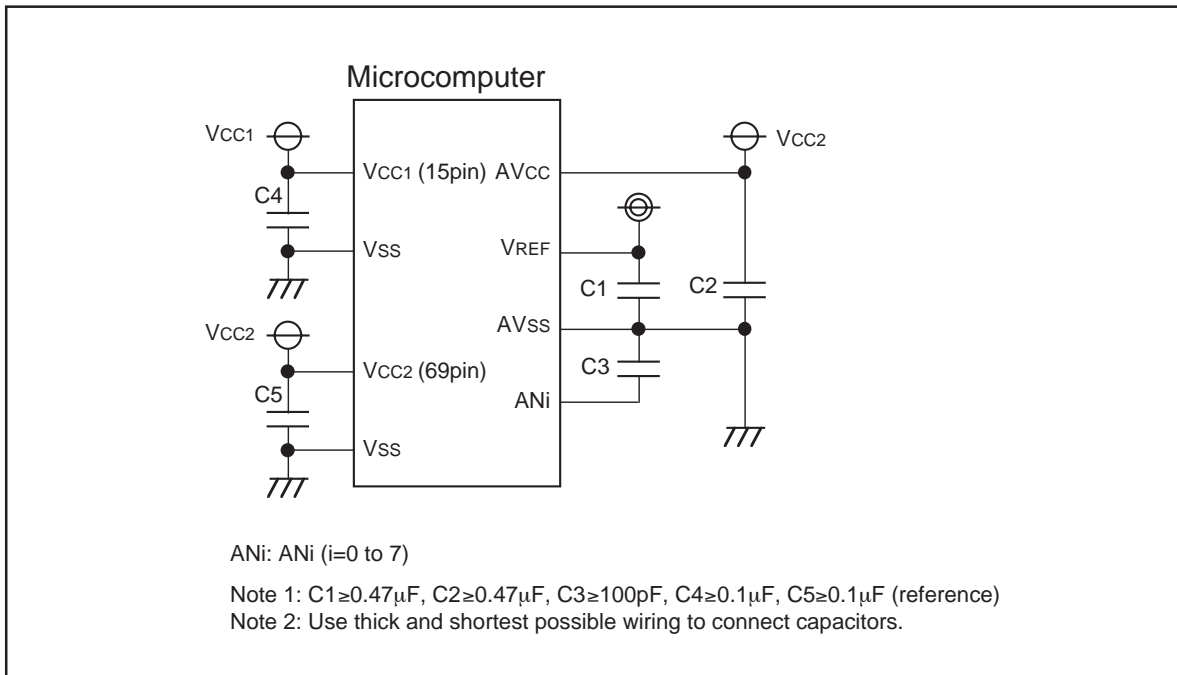

Figure 6.2. Use of capacitors to reduce noise
3. To prevent noise-induced device malfunction or latchup, as well as to reduce conversion errors, insert capacitors between the AVCC, VREF, and analog input pins (AN_i(i=0 to 7)) each and the AVSS pin. Similarly, insert a capacitor between the VCC pin and the VSS pin. Figure 6.2 is an example connection of each pin.